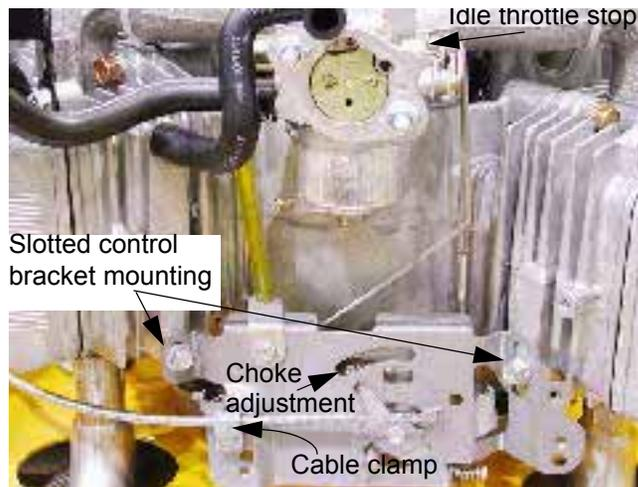

Figure 14.3
14.3. If the control bracket is removed for any reason, it must be adjusted on installation. See Figure 14.3.